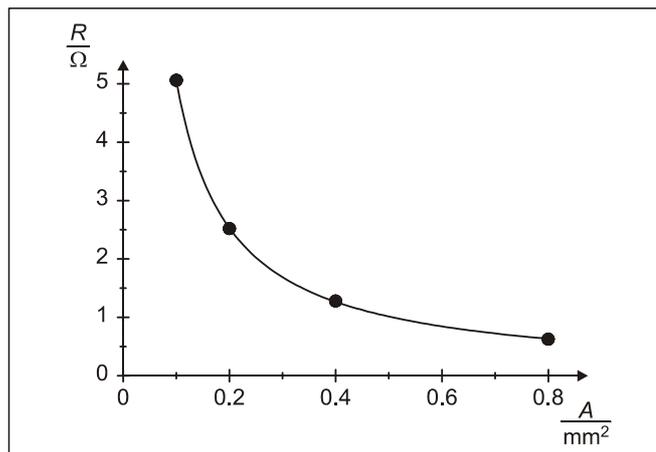

Fig. 5: Dependence of the resistance R on the cross-sectional area A for a 1 m long constantan wire
The dependence of the resistance on the cross-sectional area of the wire is displayed graphically in Fig. 5 with the values from Table 4. The curve drawn in the figure obeys – in agreement with Equation (II) – the equation